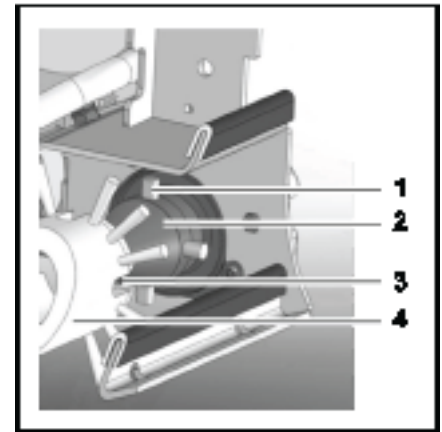

Fig 8
- (1) Pin
- (2) Brush support
- (3) Catch
- (4) Rotary brush
7. To slide the rotary brush (Fig. 8/4) on the facing brush support (Fig. 8/2), raise the rotary brush (Fig. 8/4) a little and turn slightly, if necessary, until the catches (Fig. 8/3) perceptibly slide from the rotary brush (Fig. 8/4) onto the pins (Fig. 8/1) of the brush support (Fig. 8/2).